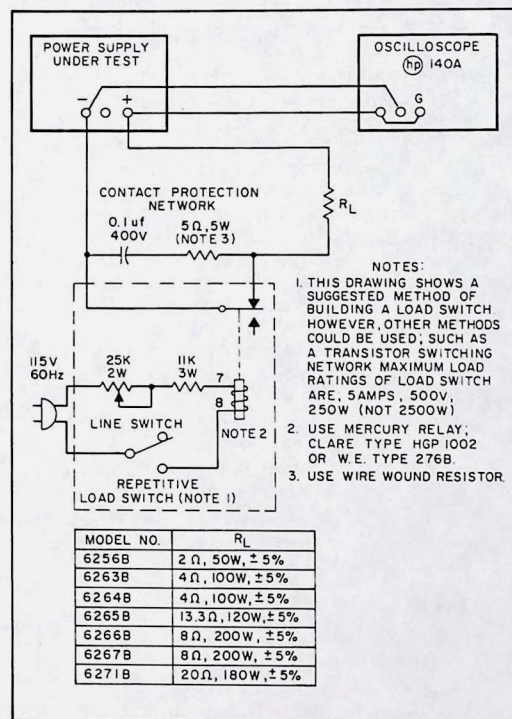

Figure 5-7. Transient Recovery Time, Test Setup
5-33 A mercury-wetted relay, as connected in the load switching circuit of Figure 5-7 should be used for loading and unloading the supply. When this load switch is connected to a 60Hz ac input, the mercury-wetted relay will open and close 60 times per second. Adjustment of the 25K control permits adjustment of the duty cycle of the load current switching and reduction in jitter of the oscilloscope display.
5-34 The maximum load ratings listed in Figure 5-7 must be observed in order to preserve the mercury-wetted relay contacts. Switching of larger load currents can be accomplished with mercury pool relays; with this technique fast rise times can still be obtained, but the large inertia of mercury pool
- a. Connect test setup shown in Figure 5-7.